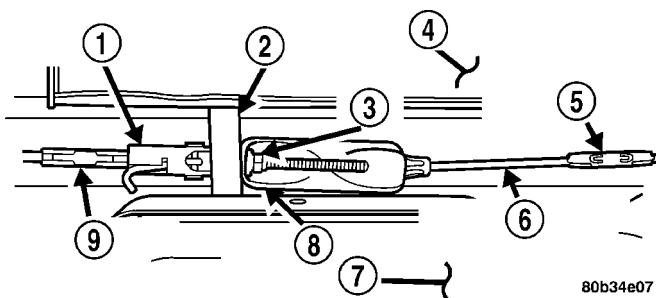
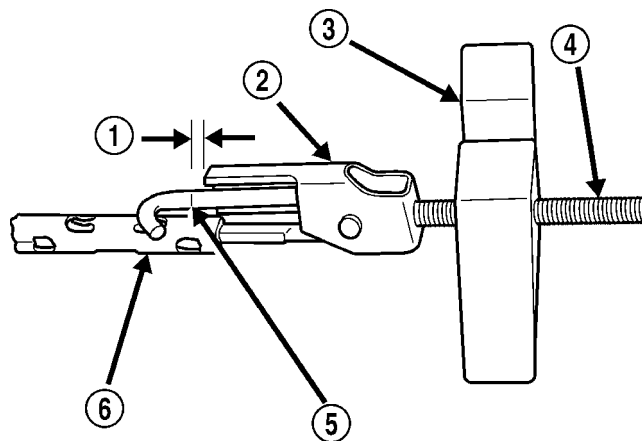

Fig. 97 Tensioner
Fig. 98 ADJUSTMENT MARK ON CABLE TENSION
- (1) Raise vehicle on jackstands or centered on a frame contact type hoist. See Hoisting in Lubrication and Maintenance.
- (2) Remove the park brake tensioner adjuster nut (Fig. 97), releasing the tensioner from the equalizer bracket to the intermediate cable.
- (3) Disconnect the connector and remove the park brake tensioner from the left rear parking brake cable (Fig. 97).
- (1) Mark tensioner rod 6.35 mm (1/4 in.) from edge of tensioner bracket (Fig. 98).
- (2) Install the park brake tensioner, with its isolator, in the vehicle, with the threaded adjustment stud pointed towards the right side of the vehicle (Fig. 97).
- (3) Connect the left rear park brake cable to the cable connector on the tensioner (Fig. 97).
- (4) Attach the threaded end of the tensioner to the equalizer bracket (Fig. 97), and install a new adjuster nut. Do not tighten at this time.
(7) Raise vehicle again.
(8) Tighten adjusting nut at equalizer (Fig. 97) until mark on tensioner rod (Fig. 98) moves into alignment with edge of tensioner bracket.